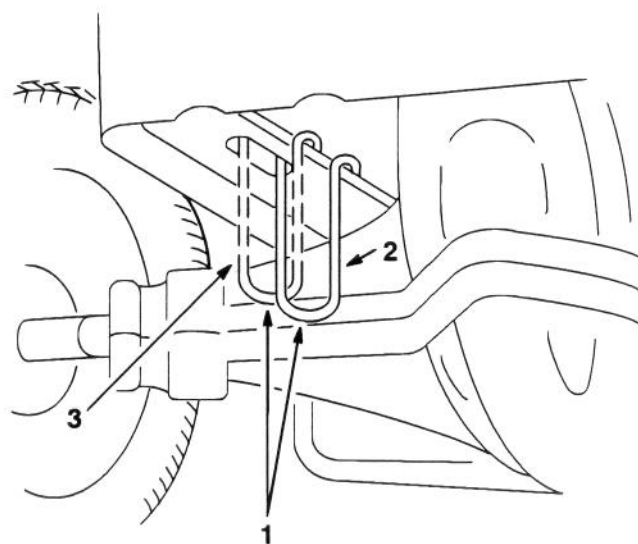

Figure 10
2. Pull the drive control wire back to the “PUSH” position. This disengages the drive system and allows the wheels to turn freely (Fig. 10).
1. Push the drive control wire forward to the “OPERATE” position. This engages the drive system (Fig. 10).